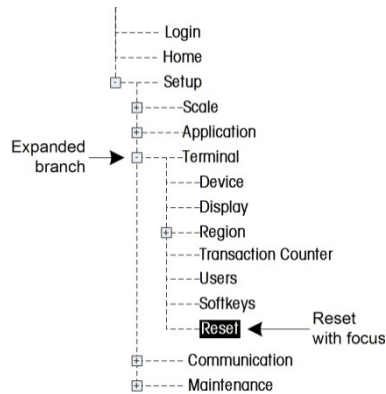

Figure 3-25: Setup Menu Tree - Reset
1. Press the SETUP softkey . The setup menu tree displays (see Figure 3-25).